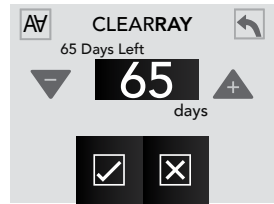

Figure 12.6c
Tap CLEARRAY 65 (Figure 12.6c) to enter the Programming Menu.
1. From the “Water Care” Menu you can to set the CLEARRAY UV bulb timer, Figure 12.6c.